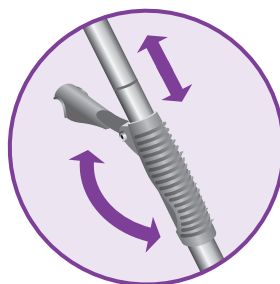

fig. 3
- 4 For your comfort, you can adjust the height of the mop. Just lift the latch on the tube 90 degrees to the open position. Holding the handle, extend the tube to the desired height and then close the latch to the locked position. (fig. 3)